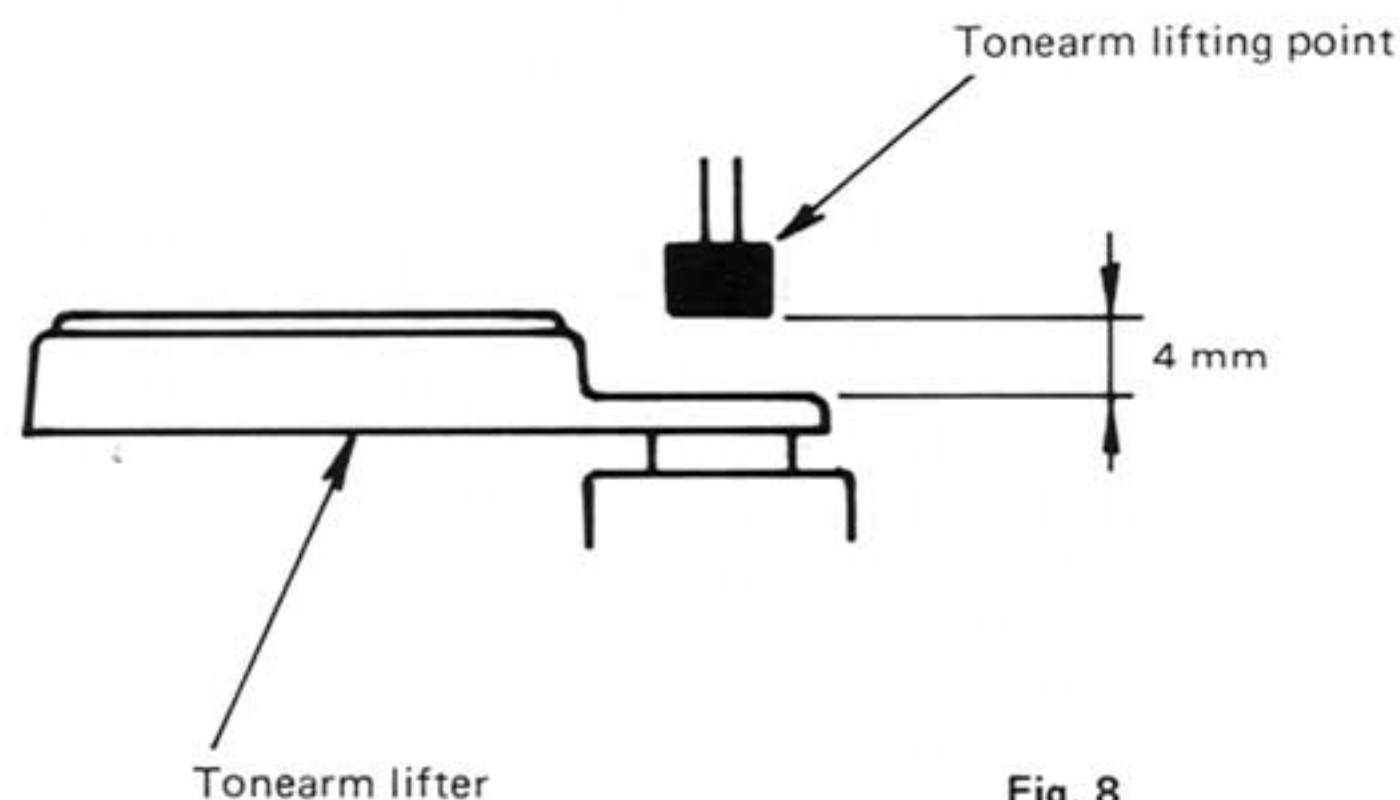

Fig. 8
- Adjust the tonearm lifter height adjusting screw with the tonearm placed on the arm rest and the tonearm lifter set to the down position until the clearance between the tonearm lifting position and the tonearm lifter is approx. 4 mm. Turning the tonearm lifter height adjusting screw clockwise increases the clearance, turning the screw counterclockwise decreases it. See Fig. 8 below.